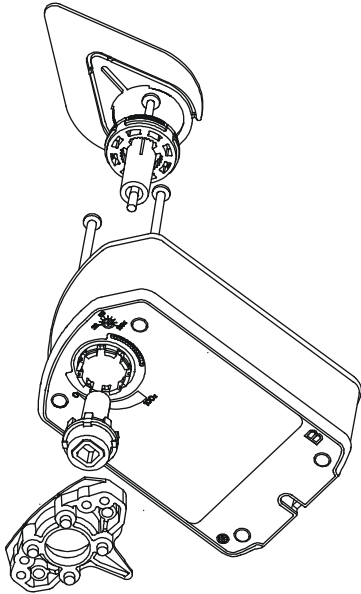

**Figure 10: Positioning the Valve Stem**
1. Turn the valve stem to the position outlined in Figure 10.